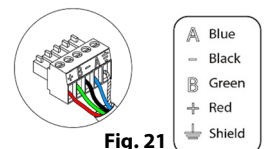

Fig. 21
- ② It has a 5-pin terminal to connect it to the Airzone Connection Bus of the main board . Attach the wires with the terminal screws following the color code (Fig. 21).